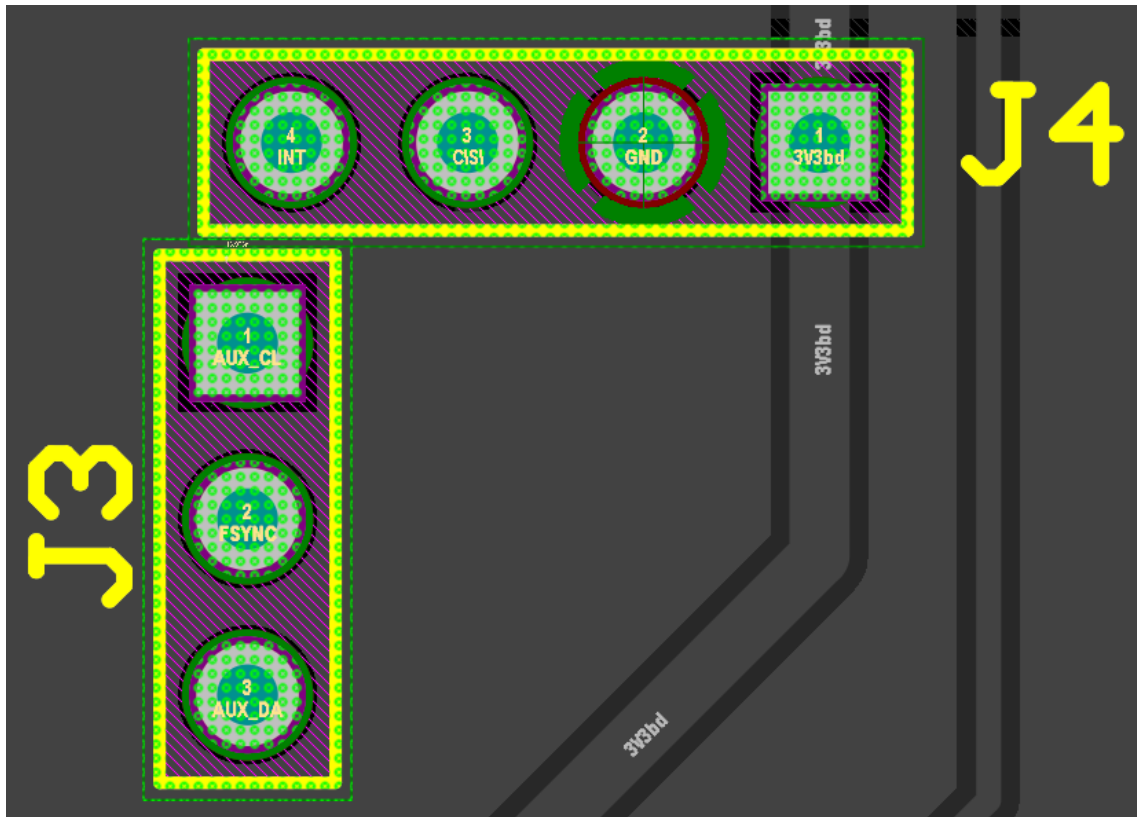

Figure 11. Violating components in the PCB
24. Left-click on the **Component Clearance Constraint violation** again from *Violations* list. The workspace should zoom to the violating primitives and mask the rest of the board except for the primitives shown in Figure 11.